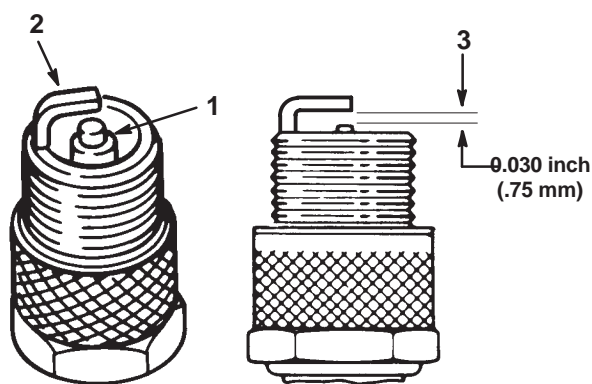

Figure 32
2. Look at the center of the spark plug(s) (Fig. 32). If you see light brown or gray on the insulator, the engine is operating properly. A black coating on the insulator usually means the air cleaner is dirty.
3. Check the gap between the center and side electrodes (Fig. 32). Bend the side electrode (Fig. 32) if the gap is not correct.